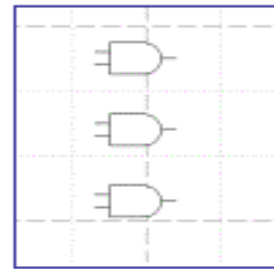

Fig. 4
- Move the mouse pointer to the *Design Window* and place three of these gates where you want them by clicking once for each gate. See Fig. 4.